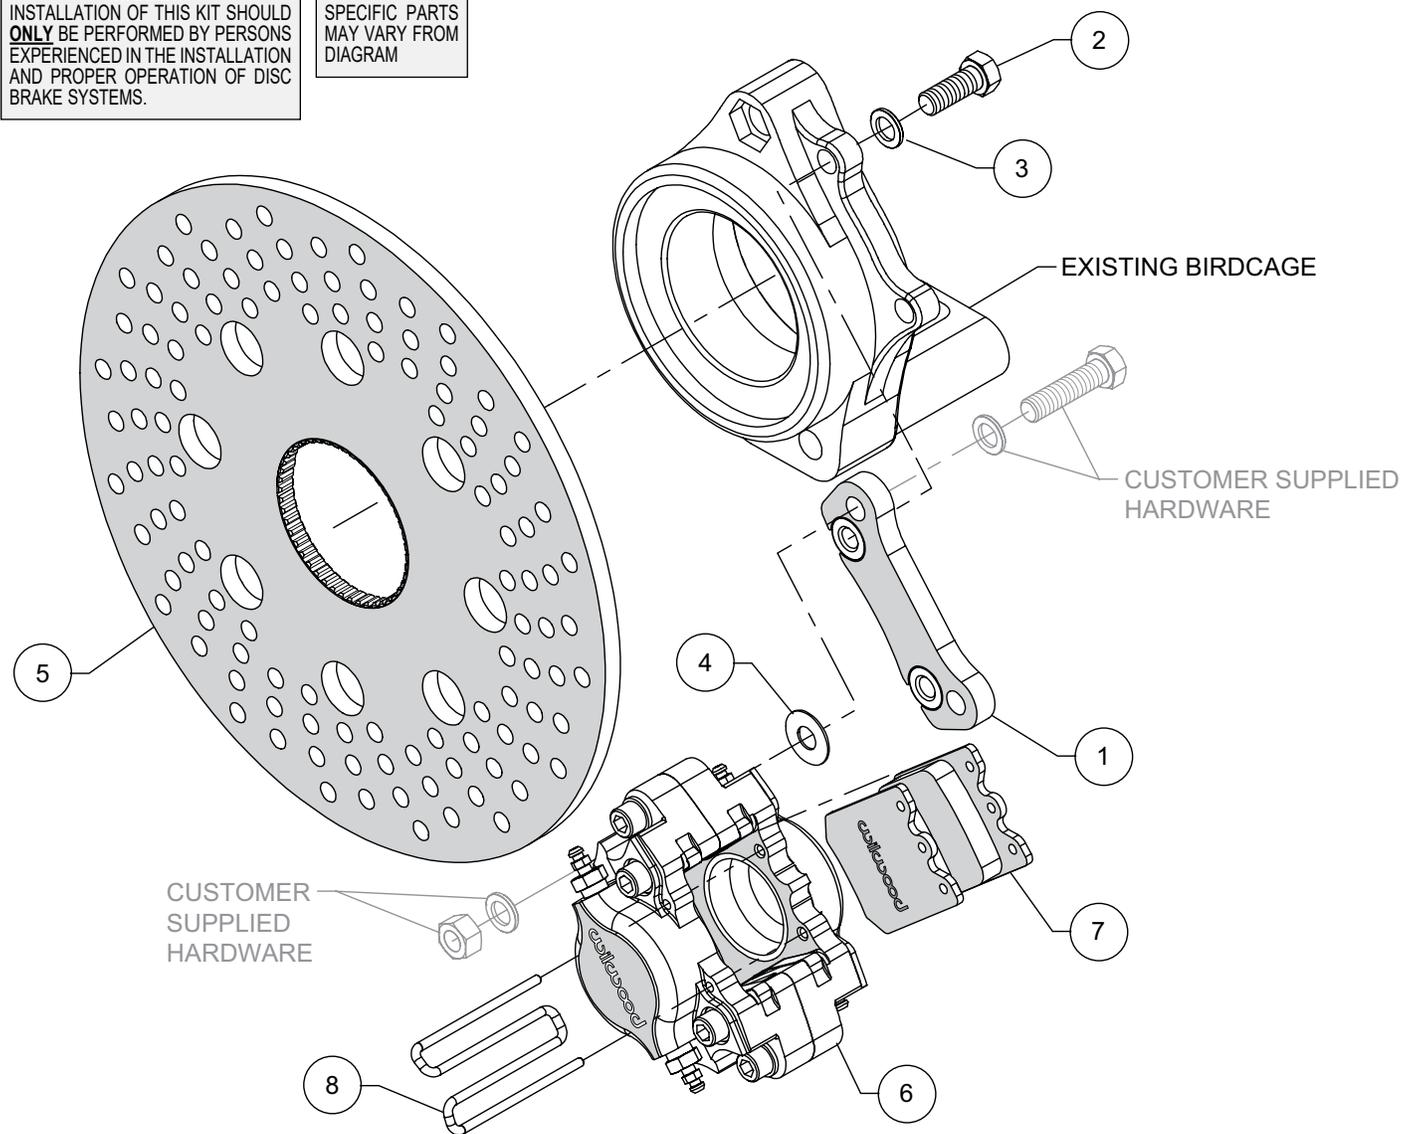

Figure 1. Typical Installation Configuration
NOTE: Numbers in parenthesis refer to the parts list and Figure 1 on the preceding pages.
- Orient the caliper mount bracket (1) as shown in Figure 1, and install using bolts (2), and washers (3). Ensure that the flanged heads of the clinch nuts in the bracket are facing outboard. Temporarily tighten the mounting bolts. **NOTE:** The bracket must fit squarely against the mount bosses on the birdcage. Inspect for interference from machining ridges, burrs, etc. Remove bolts one at a time, apply red *Loctite*[®] 271 to the threads and torque to 40 ft-lb.
- Slide the rotor (5) onto the axle and secure using customer supplied hardware.
- Mount the caliper onto the bracket (1) using customer supplied hardware, Figure 1. Initially place one .035" thick shim (4) on each bolt between the caliper and bracket as shown in Figure 1. Temporarily tighten the bolts/nuts and view the rotor through the top opening of the caliper. The rotor should be centered in the caliper. If not, adjust by adding or subtracting shims (4) between the bracket and the caliper mount lugs. Once the caliper alignment is correct, torque customer supplied mounting hardware as required. Use of red *Loctite*[®] 271 is recommended.
- Remove the pad clip retainer (8) from the caliper (6). Slide the brake pads (7) into place. They should install easily without interference. Reinstall the pad clip retainer.